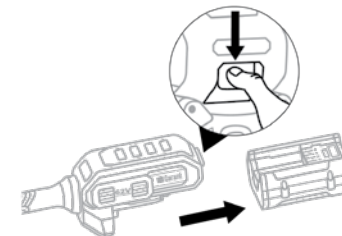

Fig. 7
2. Press the battery-release button to disengage the battery from the latch. (Fig. 7)
3. Remove the battery from the powerhead by sliding the battery in the direction shown by the arrow in figure 7.